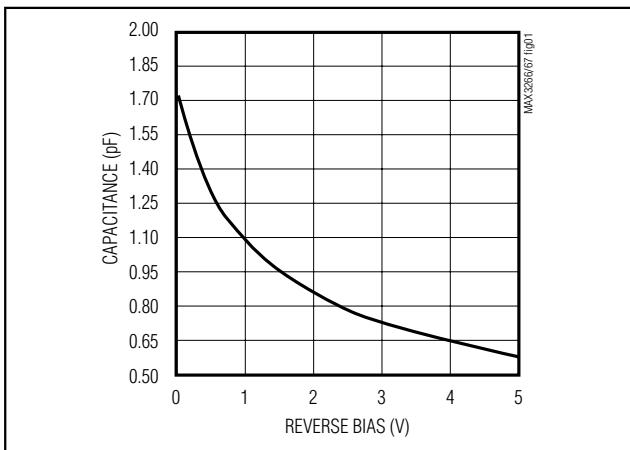

Figure 1. Typical Photodiode Capacitance vs. Bias Voltage
**Note 1:** Source Capacitance represents the total capacitance at the IN pin during characterization of noise and bandwidth parameters. Figure 1 shows the typical source capacitance vs. reverse voltage for the photodiode used during characterization of TO-56 header packages. Noise and bandwidth will be affected by the source capacitance. See the *Typical Operating Characteristics* for more information.